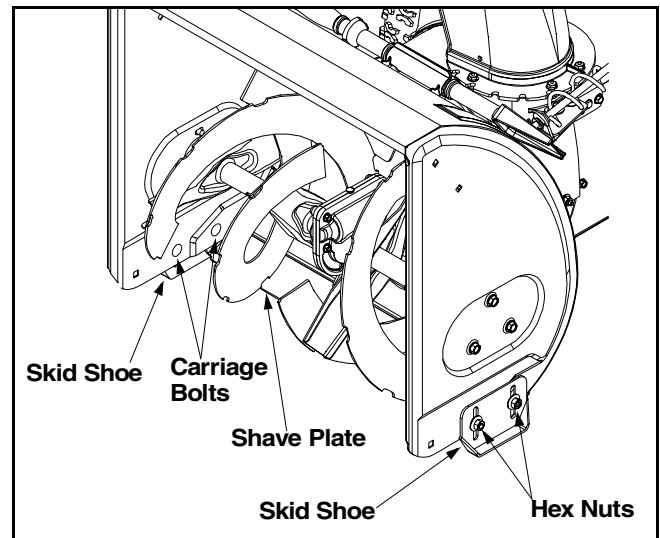

Figure 15
- To remove skid shoes, remove the four carriage bolts, cupped washers and hex nuts which attach them to the snow thrower. Reassemble new skid shoes with the four carriage bolts, cupped washers (cupped side goes against skid shoes) and hex nuts. See Figure 15.